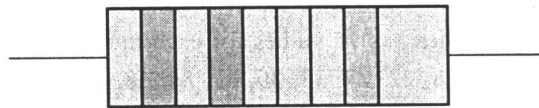

Figure 1.1 Resistor with colour code
The resistor in Figure 1.1 has red (2), violet (7), yellow (4 zeros) and gold bands.[3] So its value is  $270\ 000 \Omega=270 k\Omega$ . On circuit diagrams the  $\Omega$  is usually omitted and the value is written 270k.